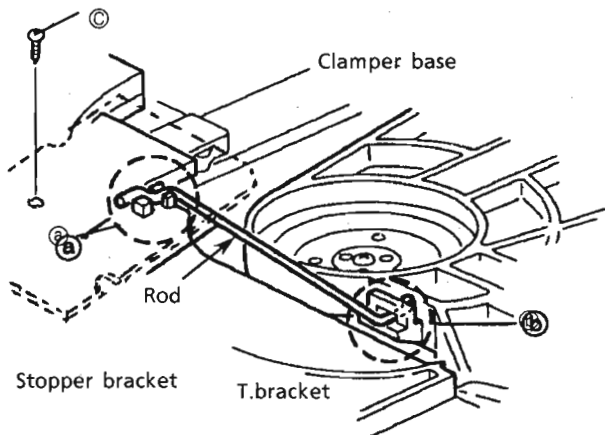

Fig. 27
2. Remove the screw ③ holding the stopper bracket.(See Fig.27) ---- (U.S.A only)
3. Remove the rod from both ends' hooks which are secured on T.Bracket ④ and clamper base ⑤. [See Fig. 27]